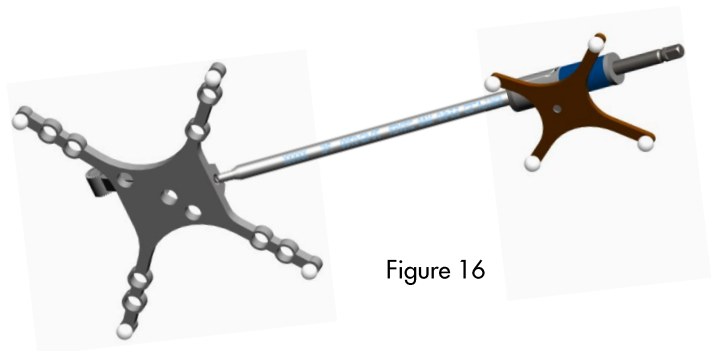

Figure 16
- Place the simulator's tip in the reference frame divot (Figure 16) and obtain the verification reading of the **CD Horizon Solera 5.5/6.0 MAS Driver Tool card**.